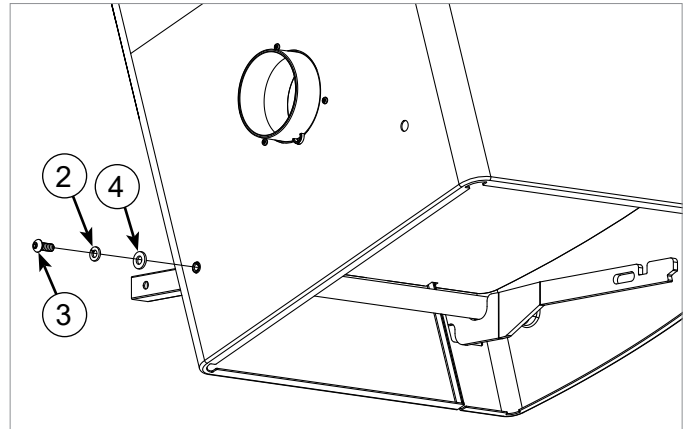

Fig. 26
8. The end of the caster support next to the back of the saw is the end with the mounting shoulder. Insert the mounting shoulder through the mounting hole in the rear of the cabinet and secure that end of the caster support to the cabinet with one M8 x 20 button head socket bolt, one M8 x 13.6 lock washer, and one M8 x 18 washer (see Fig. 26). Fully tighten the bolt using a 5 mm hex key.